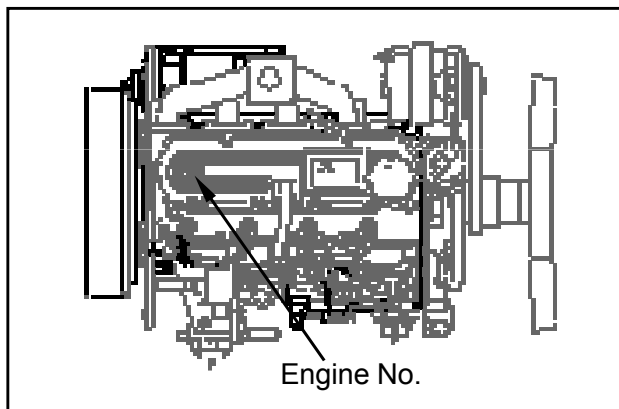

Fig.1-2
- Engine No. : on the top of the engine rocker cover. (See Fig. 1-2)